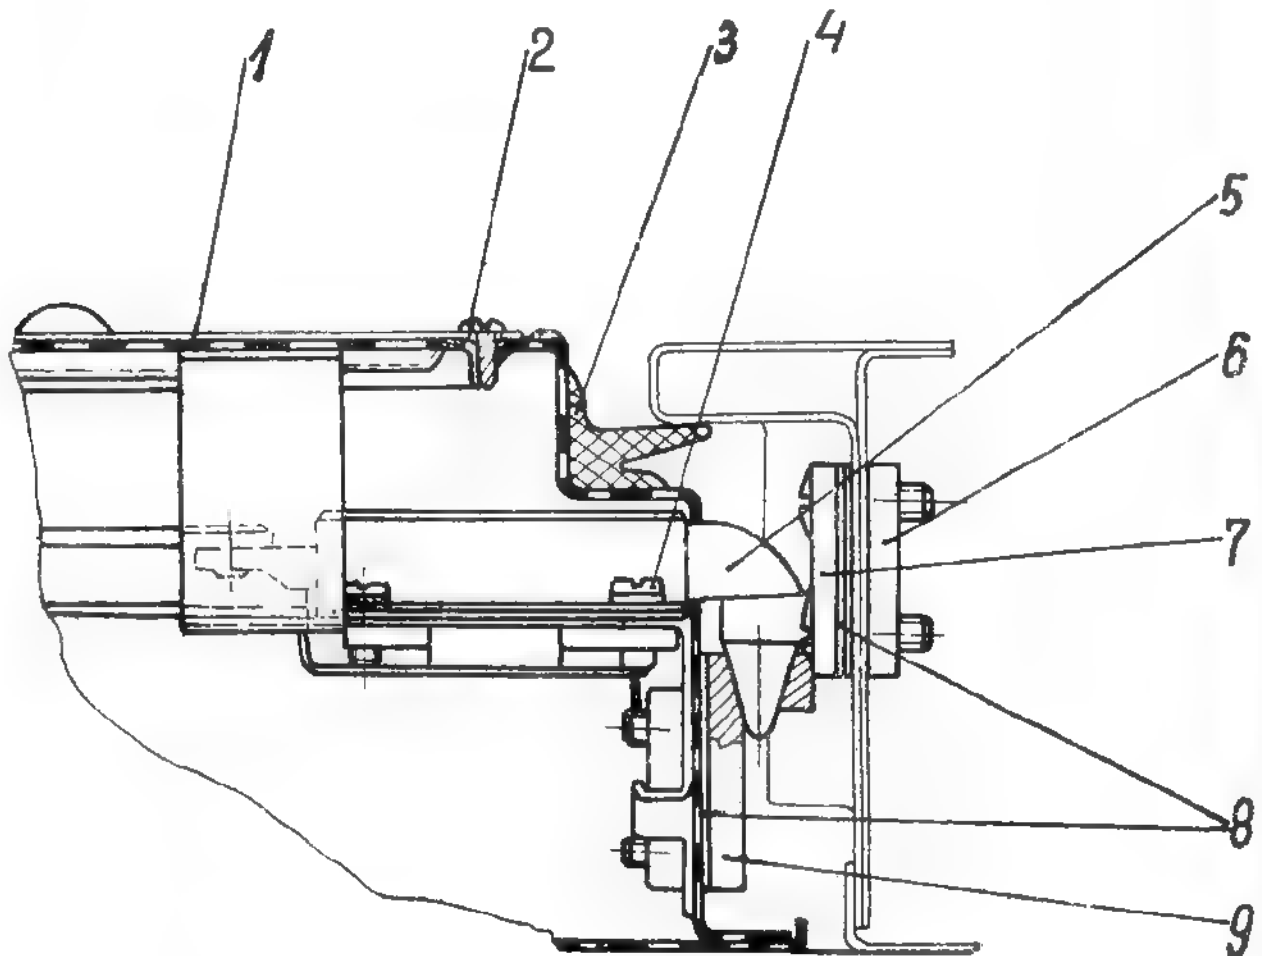

Fig. 2.8. LOWER TAILGATE LOCKING DEVICE
- Open the lower tailgate and lubricate with some drops of oil the latch, operating it concomitantly from outside, in order to lubricate the contact faces between the latch and its guide in the tailgate (see fig.2.8.).